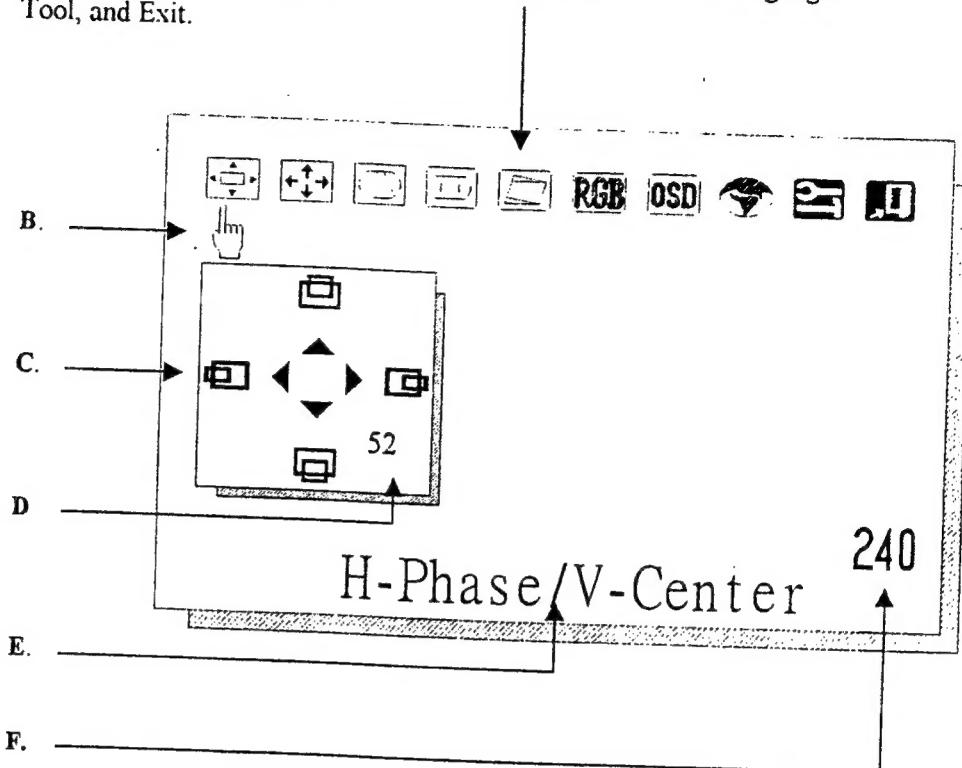

Figure 7 Function Menu
- 1) Press “Menu” key to enter the OSD menu containing 10 functions as shown in figure 7.
Make the adjustment using the four function control keys. Please refer to the Figure 7 for advanced operation.
( Please refer to the figure 7 )